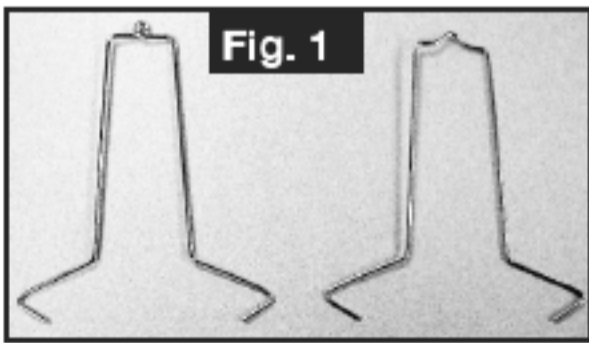

Fig. 1
- The Roasting Rack is two separate pieces of metal (Fig. 1).
1. Attach the Lid Holder as illustrated in fig. 1.